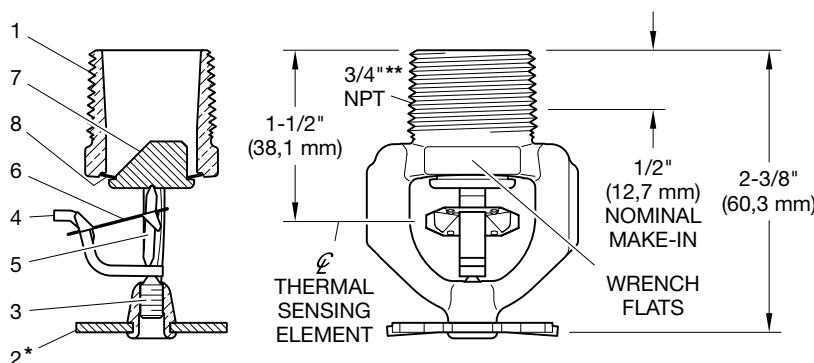
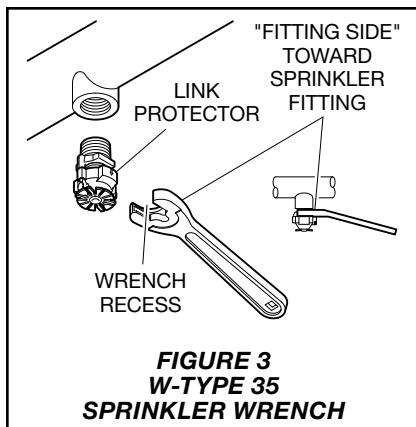

FIGURE 1
FIGURE 3
The TYCO Model ESFR-17 Pendent Sprinklers are Early Suppression, Fast Response (ESFR) sprinklers with a nominal K-factor of 16.8. The sprinkler assembly is shown in Figures 1 and 2. They are suppression mode sprinklers that are especially advantageous as a means of eliminating in-rack sprinklers when protecting high-piled storage.
Note: Install the Model ESFR-17 Pendent Sprinkler only in the pendent position as shown in Figure 3.
Step 2. Wrench-tighten the Model ESFR-17 Sprinkler using only the W-Type 35 Sprinkler Wrench as shown in Figure 3, and by fully engaging (seating) the wrench on the sprinkler wrench flats as shown in Figures 1 and 2.
Step 3. After installation, inspect the Link Assembly of each Model ESFR-17 Sprinkler for damage. In particular, verify that the Link Assembly and Hook are positioned as shown in Figures 1 and 2, and that the Link Assembly is not bent, creased, or forced out of normal position in any way. Replace damaged sprinklers.